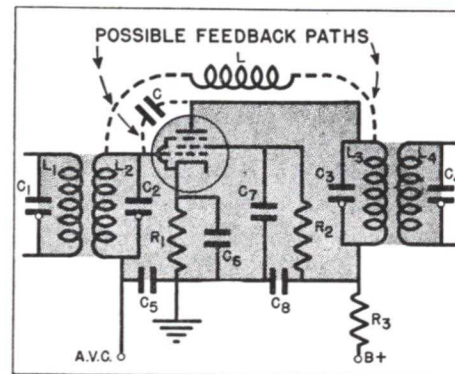

FIG. 20. This i. f. stage can have either inductive or capacitive feedback paths between grid and plate circuits.
Fig. 20 shows a typical i.f. amplifier stage. As in all radio stages, there is a certain amount of grid-plate capacity. This can act as a feedback path—even in modern pentode tubes, in which the screen grid and the suppressor grid both tend to reduce this grid-plate capacity to a very small value. In addition, there is capacity coupling between grid and plate leads, as well as possible inductive coupling between the input and output tank circuits.
► Incidentally, proper alignment may clear up oscillation in a circuit like that in Fig. 20. If the tank circuit  $C_1-L_1$  is far off resonance, the reflected effects on  $C_2-L_2$  are reduced, so the Q factor of the latter circuit will rise. Similarly, if tank circuit  $L_4-C_4$  is far off resonance, the impedance of tank circuit  $C_3-L_3$  will rise. Either condition may produce instability and oscillation. When the circuits are all correctly aligned, the reflected effects will load the tuned circuits in the offending stage and reduce their Q. Further, if the plate tank circuits are carefully tuned slightly below resonance (using an increased trimmer condenser capacity setting), then there is little chance